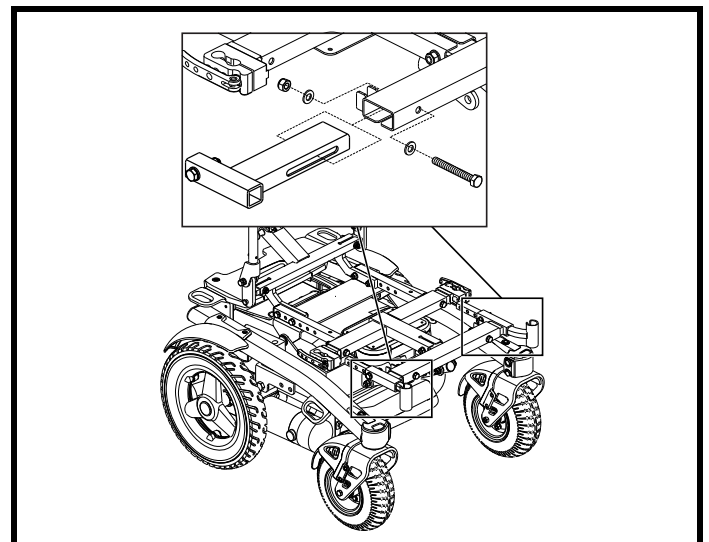

Figure 14. Leg Rest Width Adjustment
2. Loosen the leg rest receiver hardware. See figure 14.